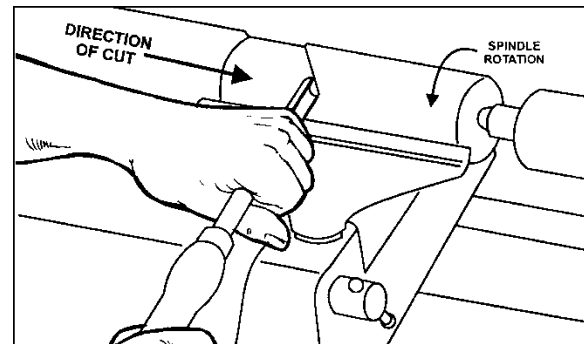

Figure 10-6
3. Beginning about 2" from the tailstock end of the workpiece, roll the flute (hollowed-out portion) of the tool in the direction of the cut. See Figure 10-6. Make long sweeping cuts in a continuous motion to rough the piece down to a cylinder.